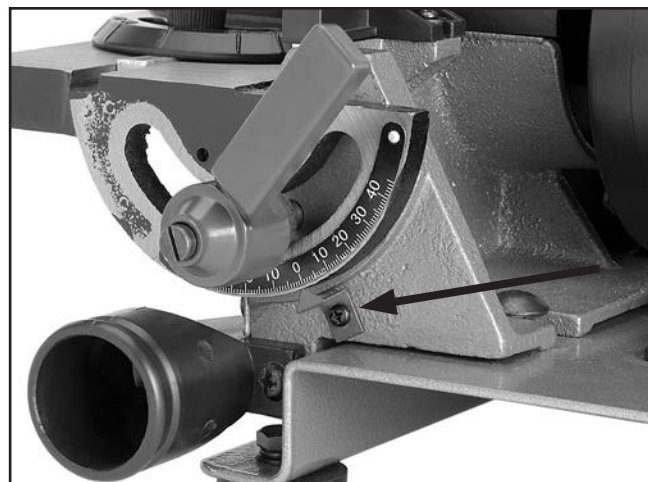

Figure 18. Sanding disc table angle scale pointer installed.
18. Using the Phillips head screw, align the red scale pointer with the "0" mark on the table angle scale (see **Figure 18**).